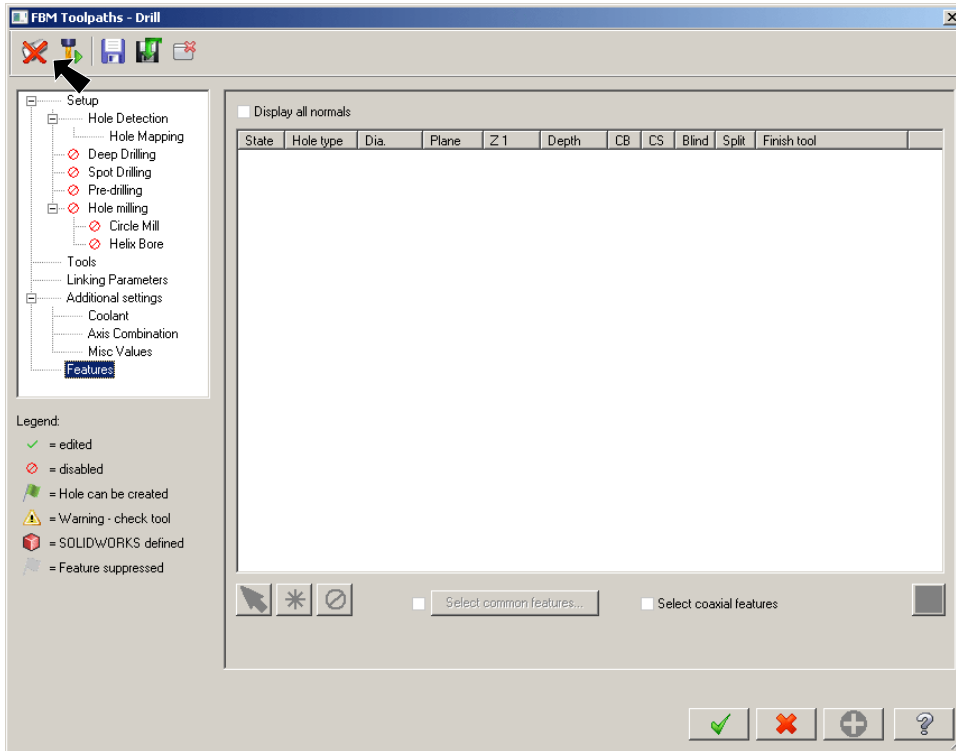

Fig. 90
Step 2. Click the **left Tray solid** and params are all set so just click **Detect** button , Fig. 90.